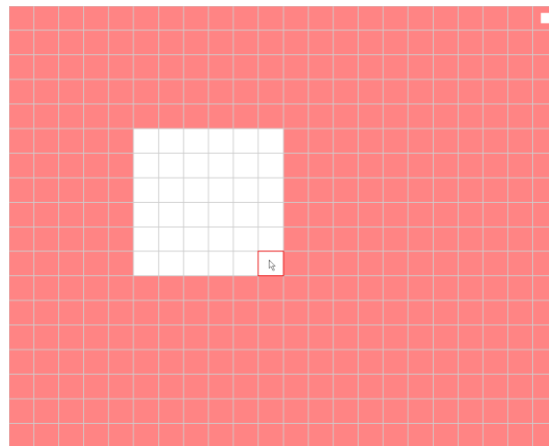

Figure 2-63
- Region: Click select button, the interface is shown as in Figure 2-63. Here you can set motion detection zone. There are four zones for you to set. Please select a zone first and then left drag the mouse to select a zone. The corresponding color zone displays different detection zone. You can click Fn button to switch between the arm mode and disarm mode. In arm mode, you can click the direction buttons to move the green rectangle to set the motion detection zone. After you completed the setup, please click ENTER button to exit current setup. Do remember click save button to save current setup. If you click ESC button to exit the region setup interface system will not save your zone setup.
In Figure 2-63, you can left click mouse and then drag it to set a region for motion detection. Click Fn to switch between arm/withdraw motion detection. After setting, click enter button to exit.